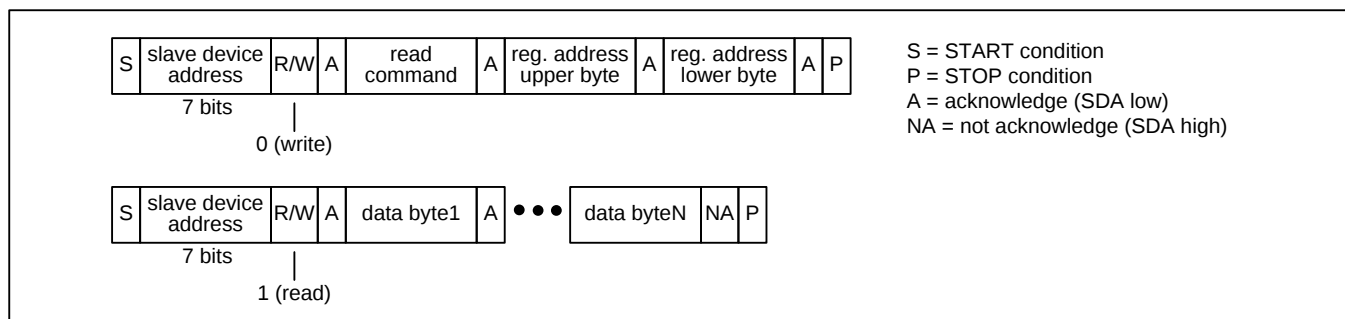
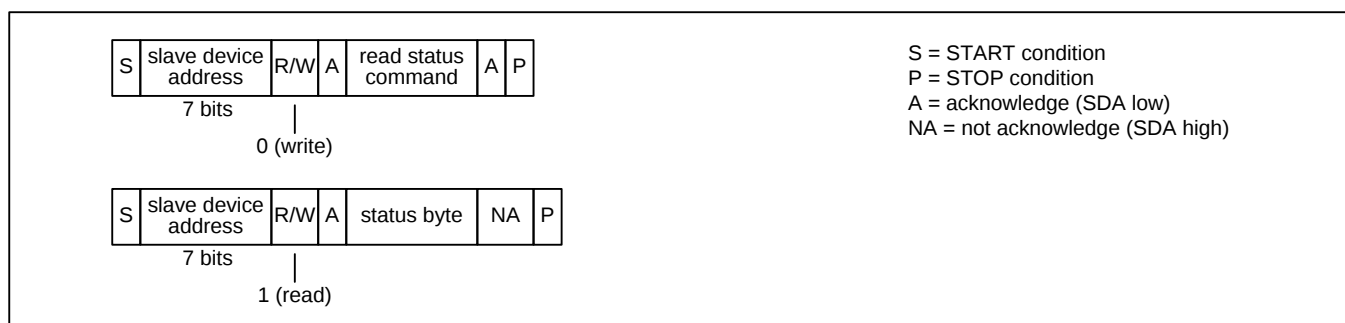

Figure 8 - I²C Read Transaction Functional Timing
Figure 11 - I²C EEPROM Read Status Transaction Functional Timing (ZL40251 and ZL40253 Only)
Read Transactions. The device registers are accessible when the EESSEL bit is 0. On ZL40251 and ZL40253 the internal EEPROM memory is accessible when the EESSEL bit is 1. On ZL40250 and ZL40252 the EESSEL bit must be set to 0. The bus master first does an I²C write to the device. In this transaction three bytes are written: the SPI Read command (see Table 3), the upper byte of the register address, and the lower byte of the register address. The bus master then does an I²C read. During each acknowledge (A) bit the device fetches data from the read address and then increments the read address. The device then transmits the data to the bus master during the next 8 SCL cycles. The bus master terminates the read with a not-acknowledge (NA) followed by a STOP condition (P). See Figure 8. After the I²C write there can be unlimited idle time on the bus before the I²C read, but the device cannot tolerate other I²C bus traffic between the I²C write and the I²C read. Care must be taken to ensure that the I²C read is the first command on the bus after the I²C write to ensure the two-part read transaction happens correctly.
EEPROM Read Status (ZL40251 and ZL40253 Only). The bus master first does an I²C write to transmit the SPI Read Status command (see Table 3) to the device. The bus master then does an I²C read to get the status byte. In this byte, the least significant bit is set to 1 if the transfer is still in progress and 0 if the transfer has completed. See Figure 11. Similar to read transactions described above, the I²C write and the I²C read cannot be separated by other I²C bus traffic.
Note: In Figure 8 through Figure 11, a STOP condition (P) immediately followed by a START condition (S) can be replaced by a repeated START condition (Sr) as described in the I²C specification.